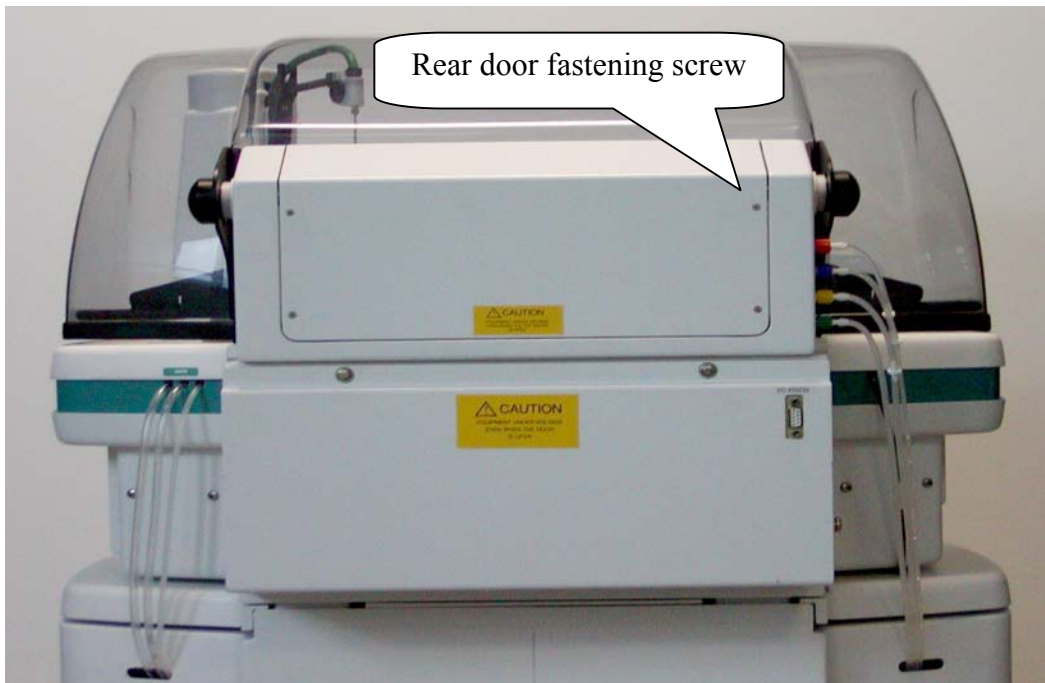

Fig. 78 Instrument rear view
Unscrew the four fastening screws to remove the door located on the instrument rear side to access the Wash Pump Assembly (Fig. 78) .
1. Unscrew the four fastening screws to remove the door located on the instrument rear side to access the Wash Pump Assembly (Fig. 78) .